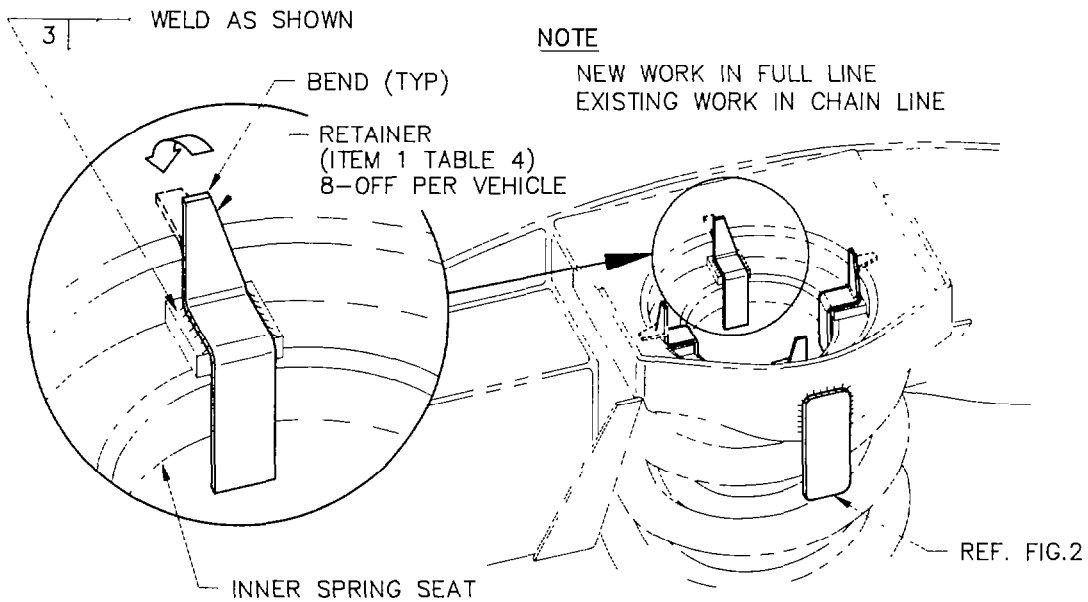

Figure 3 - Modified Rear Inner Spring Upper Seat RFSV only
13. The modification to the rear inner spring upper seats is to be carried out by Rover Australia dealers as a warranty repair as detailed in Rover Australia Newsletter Military 07/1992. EMP 9/93 controls the issue of parts and details action required. Figure 3 depicts the modified upper spring seat, for information.